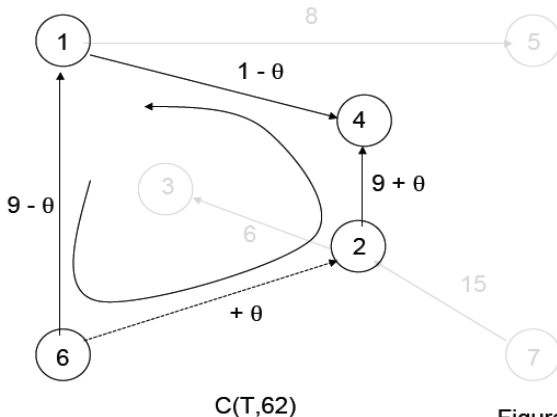

Figure 2c
- The arc  $(i, j)$ , together with other arcs in  $T$ , forms a unique cycle, denoted by  $C(T, ij)$ . The direction on  $C(T, ij)$  is such that  $(i, j)$  is a forward arc. Note that  $x_{ij} = 0$  (see Figure 2c).